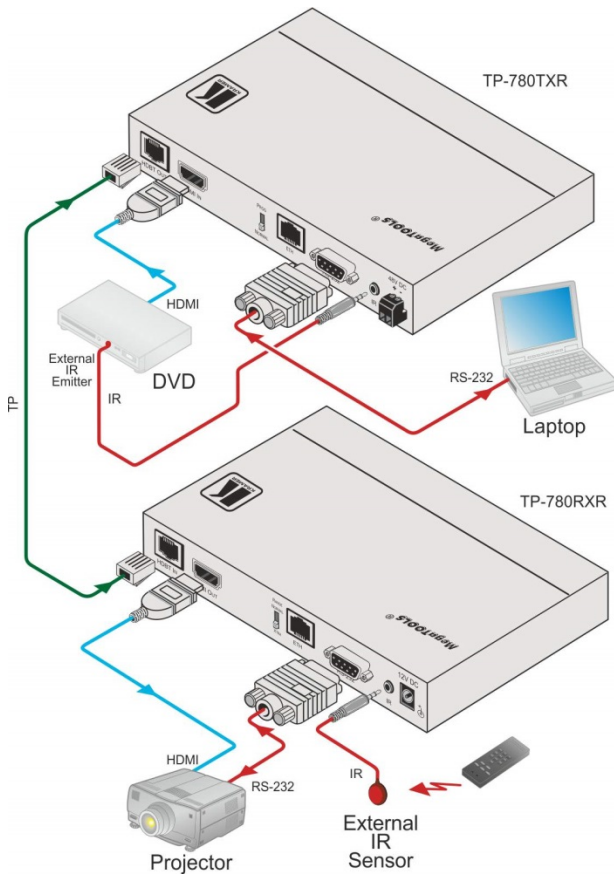

Figure 3: Connecting the TP-780TXR/ TP-780RXR Transmitter/Receiver Pair
You can use the **TP-780TXR** and **TP-780RXR** *Extended Range HDMI Line Transmitter/Receiver + POE* to configure an HDMI transmitter/receiver system, as shown in the example in Figure 3.
5. 48V DC power adapter to the power socket and connect the adapter to the mains electricity (not shown in Figure 3).
5. If operating the **TP-780RXR** over a range of more than 100m (328ft), connect the 12V DC power adapter to the power socket and connect the adapter to the mains electricity (not shown in Figure 3).